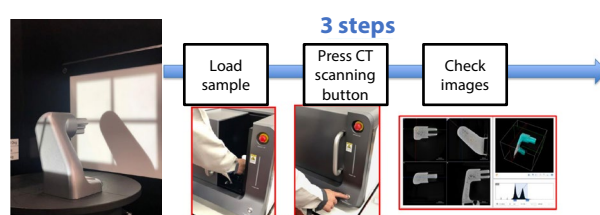

Fig. 3 Left: Guide Light / Right: Operational Steps
The main unit has a rotation table on which samples are placed for CT scanning. The guide light function (Fig. 3, left image) assists in positioning the sample. From the shadow of the sample projected onto the light receiving screen, the scanning range can be ascertained. Therefore, there is no need for an advanced scanning plan or projecting a fluorescent image. The image taking procedures are also extremely simple. Just place the sample on the table; close the door, press the CT scanning button and scanning will start, without the calibration that has been required for CT scanning until now (Fig. 3, right images). The scanning conditions can be set by just selecting the following four items: the material (plastic or metal) and the resolution (Fast: low resolution but quick, or Fine: high resolution but slow). So detailed setting conditions are not required. Until now image quality depended on the skill of the user. But now ideal images can be taken regardless of the operator's proficiency level in as little as 12 seconds. After scanning is completed, multi-planar reconstruction (MPR) images and volume rendering (VR) images are displayed, which enables the interiors of parts and products to be observed easily and in a short time. Dimensional measurements can be taken on cross-sectional images, enabling not only pass/fail decisions to be made but also feedback to manufacturing lines in a short time.